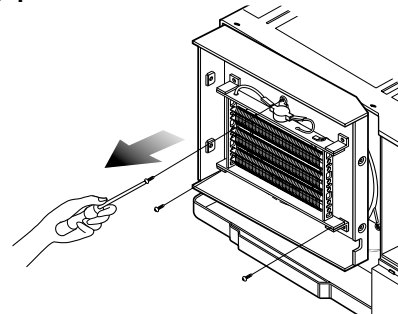

Figure 5
9. Remove the 3 screws which fasten the Heater Cover.(See Figure 5)